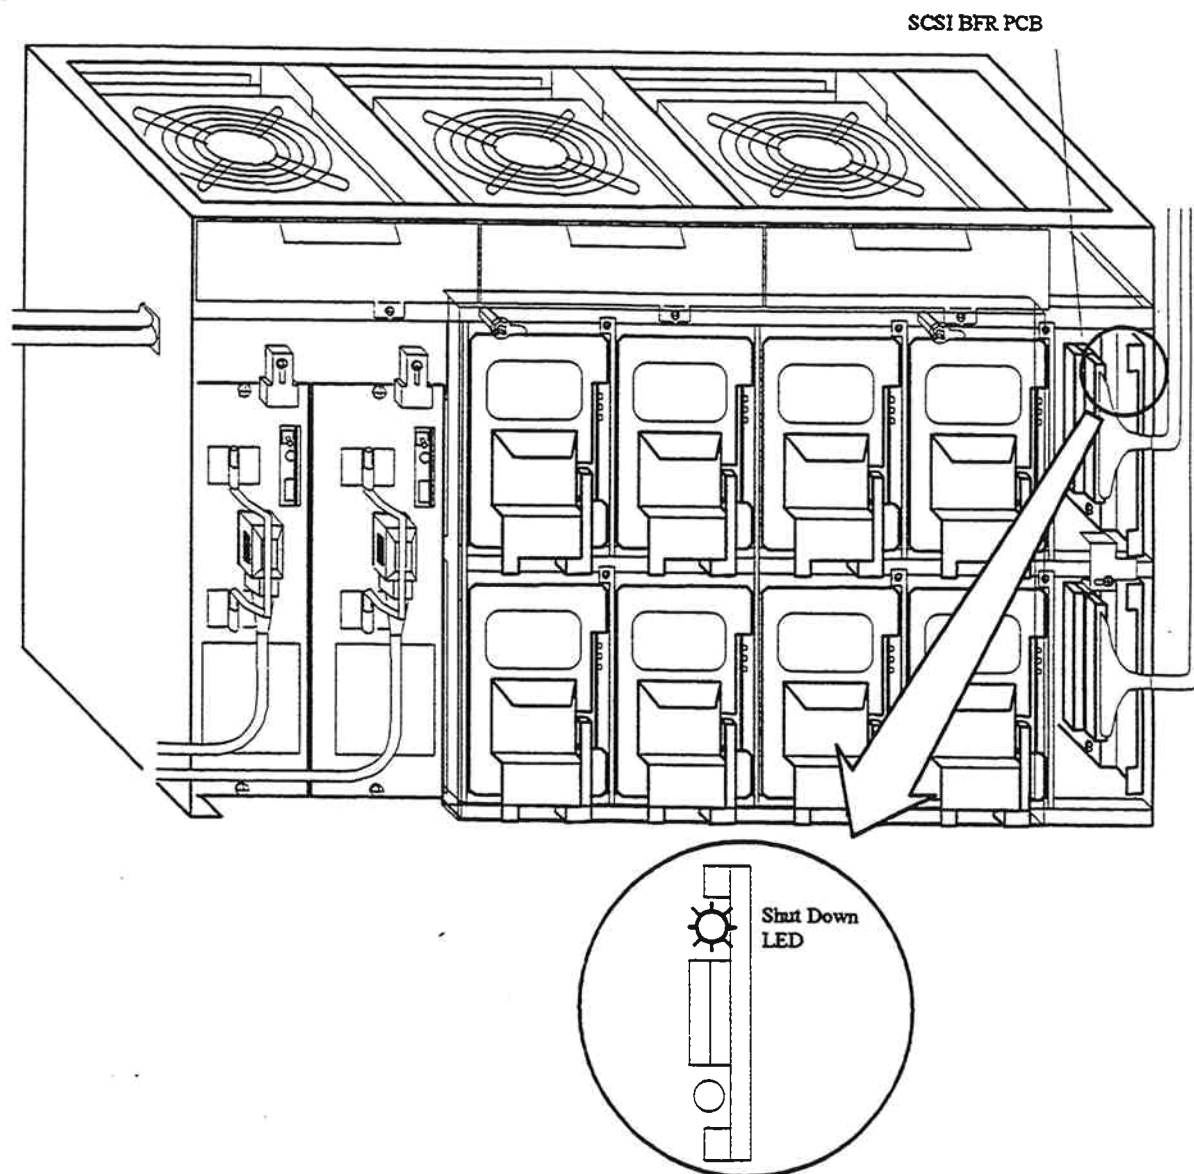

Fig. 3.3.13.2.5-3 onfirmation of the Shut Down LED Light
4. Connect the SCSI interface cables to the SCSI BFR PCBs in the second DKU chassis referring to figures 3.3.13.2.5-4 and 3.3.13.2.5-5.